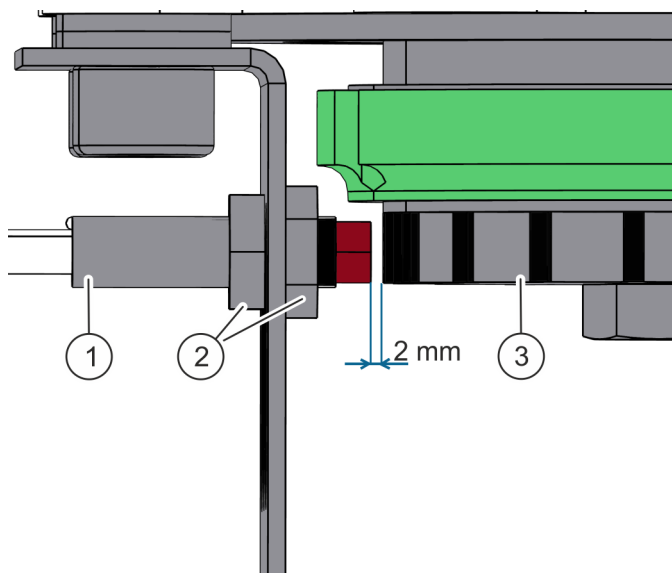

Fig. 20: Adjusting the position sensor
2. ↪ Loosen the nuts (Fig. 20/2) on the position sensor.
3. ↪ Set the position sensor (Fig. 20/1) so that the distance to the gear (Fig. 20/3) is no more than 2 mm.
4. ↪ Tighten the nuts on the position sensor (Fig. 20/2).